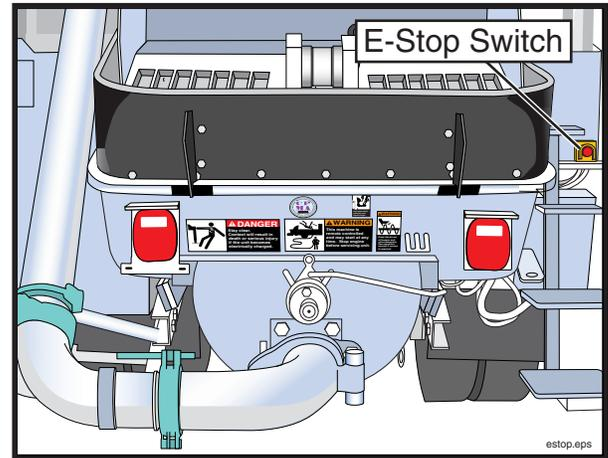

Figure 67
- 16.1 **WARNING** You must know how to stop the pump and boom. Have the operator show you the locations of the emergency stop switches (Figure 67).